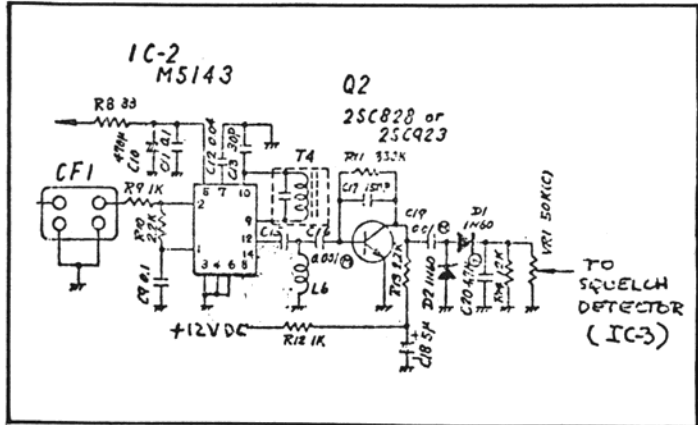

Figure 3.2 Squelch Circuit
3.2.2 Squelch Circuit (Figure 3-2)